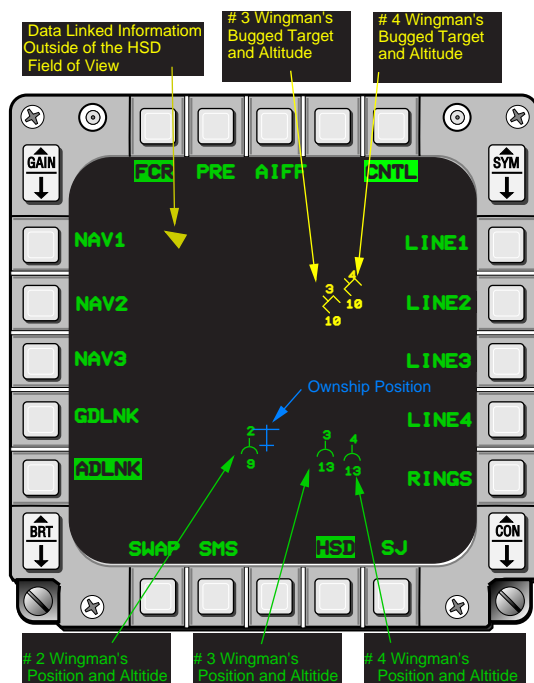

Figure 1-55 HSD ADLNK Data Link Symbology
Transmitted air-to-air information consists of own-ship position, altitude, velocity, magnetic ground track, flight member number, and the position of the own-ship's bugged target. Air-to-ground data link information consists of the selected steerpoint which may be a mark-point, a Penguin target, or the FCR air-to-ground cursor position. Air-to-air and air-to-ground data link information may be selected for display on the HSD MFD format by selecting ADLINK (OSB 16) and/or GDLINK (OSB 17) on the HSD Control page. When ADLINK is selected, intraflight members ownship positions and the locations of their bugged targets are displayed on the HSD (Figure 1-55). This same symbology is also displayed on the FCR provided the IDM is in Assign (ASGN) mode and the FCR is in one of the air-to-air radar modes (except Situation Awareness Mode (SAM) in Ground Map). When GDLINK is selected, data linked steerpoint (mark-point or Penguin target) and FCR air-to-ground cursor positions will be displayed on the HSD (Figure 1-56).
**Data Link Symbology.** The data link symbology displayed on the HSD is shown in Figures 1-55 and 1-56.